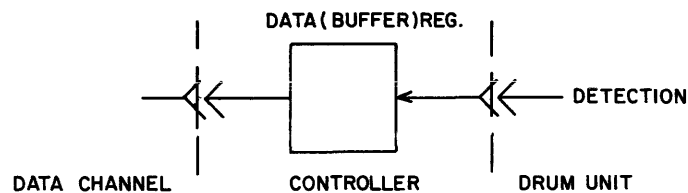

Figure A-8. Holding Register During Read/Write Check Operation
- 3) Figure A-8 shows the holding register during Read/Write Check operation.